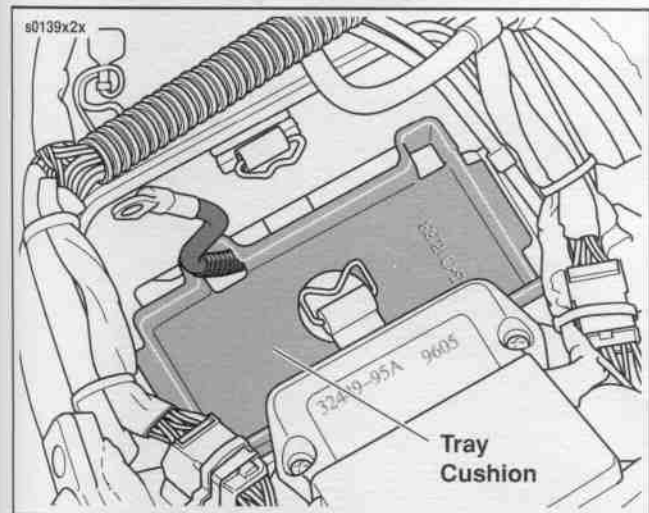

Figure 8-28. Positive Cable Routing - Tray Cushion
3. See Figure 8-28. Install rubber battery tray cushion. Route positive cable under the battery tray and through the hole on forward edge of the cushion.